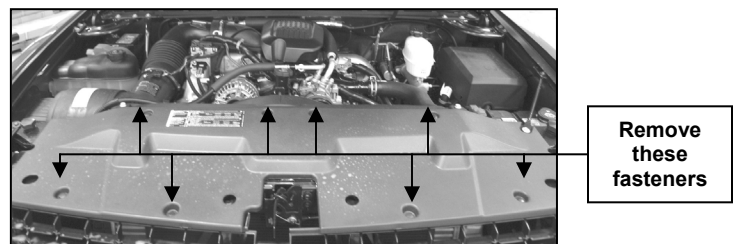

Fig 2
4. Attach Frame Brackets to Grille Guard Mounting Brackets using (1 ea) 12mm x 30mm Hex Head Bolt, (1 ea) 12mm Nylock Nut, (2 ea) 12mm Flat Washers (Fig 2 – 5). **NOTE:** The driver side Grille Guard Mounting Bracket mounts to one tow hook bolt and the driver side Frame Bracket mounts to two tow hook bolts. The passenger side Grille Guard Mounting Bracket mounts to two tow hook bolts and the passenger side Frame Bracket mounts to one tow hook bolt.
5. Open the hood and remove the eight plastic fasteners from plastic shroud on top of radiator (Fig 2). Remove plastic shroud from vehicle to access behind factory grille shell.